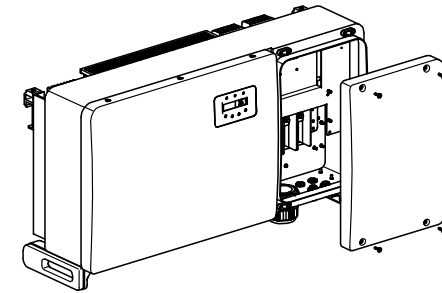

Figure 3.25 Remove the junction box cover
- 4) Remove the 4 screws on the inverter junction box and remove the junction box cover (Figure 3.25).